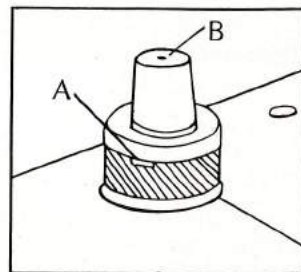
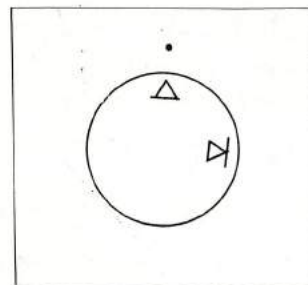
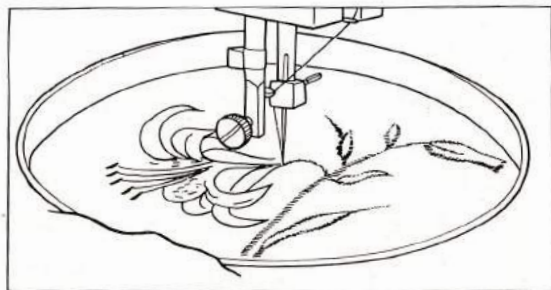
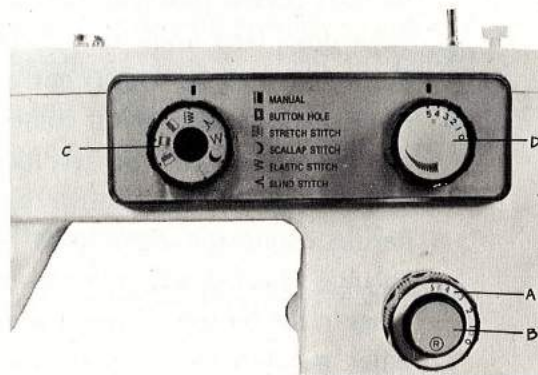

Fig. 14
Fig. 15
Fig. 21
Fig.17
General Sewing. Usually for normal sewing the pressure bar cap or darning release, (B, Fig. 14) is at its lowest position and the drop feed knob is turned to “ Δ ” position, (Fig. 15).
Sewing Thin or Light Weight Fabrics. When lighter pressure is required to sew satisfactorily on thin silk or flimsy material, the pressure cap should be about halfway down. Release all the way by pressing the snap lock, (A, Fig. 14) and then press cap (B) down again to halfway spot.
Darning and Mending. In order to move the fabric freely in any direction for darning and mending, release the pressure cap (B, Fig. 14) completely by pressing down on the snap lock, (A, Fig. 14)
Turn drop feed control (Fig. 15) to “ ∇ ” position. This will drop the feed well below the needle plate. To return feed to normal position, turn knob to “ Δ ” position.
- "D" Set zigzag width at 5, stitch length at 2. Sew a few zigzag stitches. Turn the drop feed knob (Fig. 15) to " Δ " position for 3 or 4 stitches then normal position again. By operating the drop feed knob rhythmically it is not necessary to count stitches. (D, Fig. 26).
1. Set pattern selector (C, Fig. 17) at "1" position.
2. With the zigzag width control (D, Fig. 17) set at the Number 5 and stitch length control (A, Fig. 17) as near 0 as possible without stopping the feeding action, a satin stitch is produced (Fig. 19).
4. With the machine set for a short stitch length, different designs can be made by turning the zigzag width control back and forth between 0 and 5 or any other combinations of widths. Try setting the zigzag width control (D, Fig. 17) at the first line and the various other lines. Set a rhythm for yourself and then proceed. After a while you will become quite skillful, varying your designs by the speed of the machine, stitch length and manipulation of the zigzag width control.
It is easy to follow a stamped design or to work free hand when embroidering or monogramming. (Fig. 21) Release the pressure from the foot by pressing down the snap lock on the darning. Turn the drop feed knob to " Δ " position (Fig. 15).
6. Turn the pattern selector (C, Fig. 17) to marking " 2 " position, and start to sew left side along the line.
The length of the stitch is regulated by the stitch length dial (A, Fig. 17). Turn the dial to the right to lengthen and to the left to shorten the stitch. Near "0" is the shortest stitch and "5" is the longest.
When you wish to sew in reverse to tie the threads at the beginning or the end of a seam, press the reverse button (B, Fig. 17) as far as it will go. The machine will sew backward as long as the button is pressed.
For all ordinary manual sewing, straight or zigzag, make sure that the pattern selector (C, Fig. 17) is set at "straight & zigzag" stitch pattern (Marked 1).
By turning the zigzag width control (D, Fig. 17) clockwise from 0 toward 5, zigzag width will be increased, and by turning it counter-clockwise, it will be decreased, and at "0" position, the machine will sew straight stitches.
2. Turn drop feed knob to "Z" position (Fig. 15), pattern selector (C, Fig. 17) to "1" position and zigzag width control (D, Fig. 17) to "0" position.